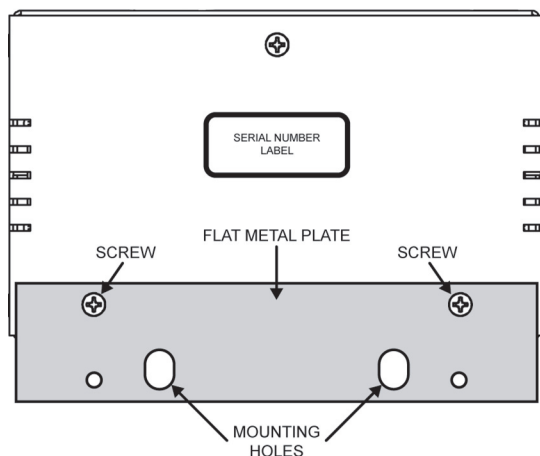

Figure 3 Flat Metal Plate Installation Option
2. Install the **Flat Metal Plate** onto the bottom of the chassis (**Figure 3**) using the screws provided in the Mounting Kit. Do not use the screws removed during **Step 1**.